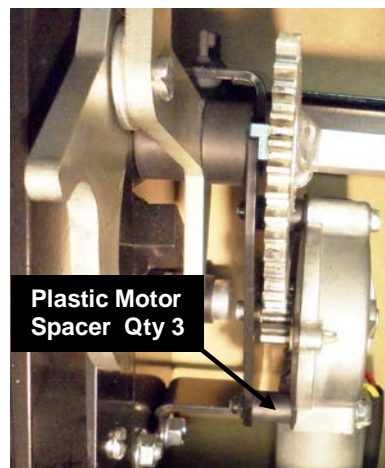
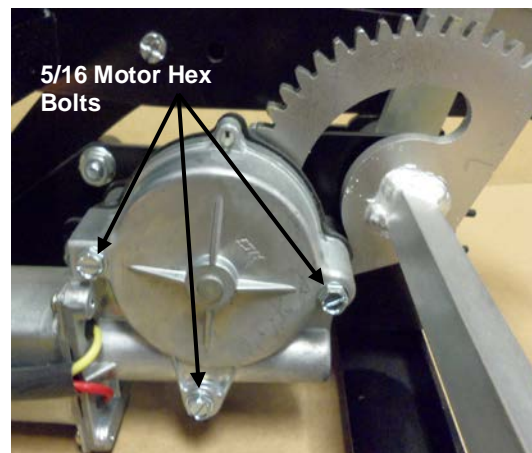

Figure 3
Figure 4
**Step 2:** Removing the motor. The motor is attached to the step frame using three 5/16 hex bolts. On the bottom side of the motor each bolt goes thru a plastic motor spacer. These spacers are not attached to the motor and will fall out when the bolt and/or the motor is removed. **Caution: Hold onto each of the three plastic motor spacers when the corresponding bolt is removed. See Figure 3.** Disconnect the motor harness from the motor plug. It may be necessary to use a 5/16" socket with ratchet to break the motor mounting bolts loose, completely remove the bolts. **See Figure 4.**